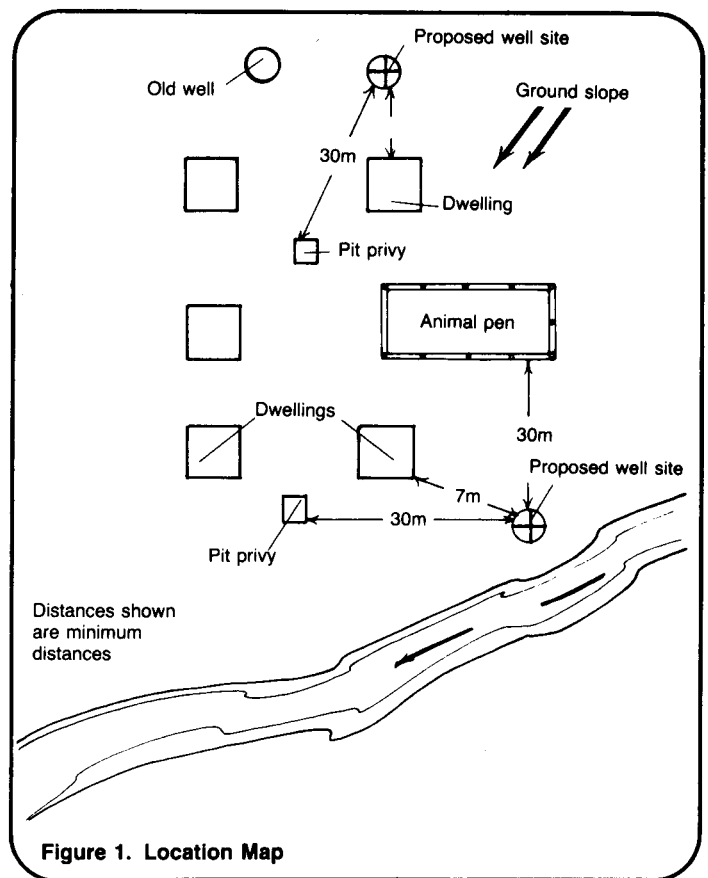

Figure 1. Location Map
1. Location map similar to Figure 1.